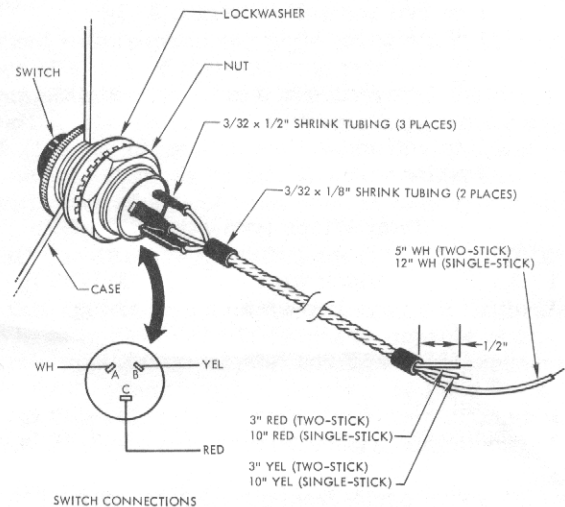

Figure 14. Buddy Box Switch Wiring
- 133. Solder proper lengths of white, yellow and red wires to terminals on buddy box push-button switch. Refer to figure 14 for wire lengths and details of cable fabrication.
- 137. Install a second piece of 3/32" x 1/8" shrink tubing over cable, positioned 1/2" from end of wire insulation (see figure 14). Shrink into place. Put switch cable aside until final installation.